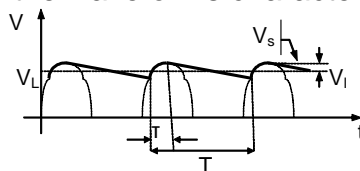

Figure 2.7
2. Figure 2.7 shows the waveforms characteristic of a: